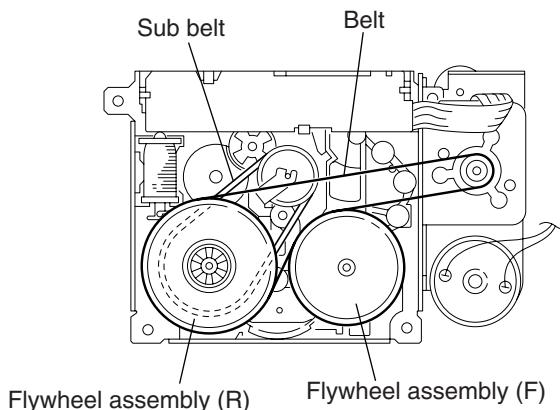

Fig.11
■ Removing the flywheel assembly (F) and (R) (See Fig.11 and 12)
- Prior to performing the following procedure, remove the side bracket (L), (R), cassette hanger assembly / cassette holder.
- Remove the polywasher from the flywheel (F) and (R) on top of the body.
- Pull out the flywheel (F) and (R).